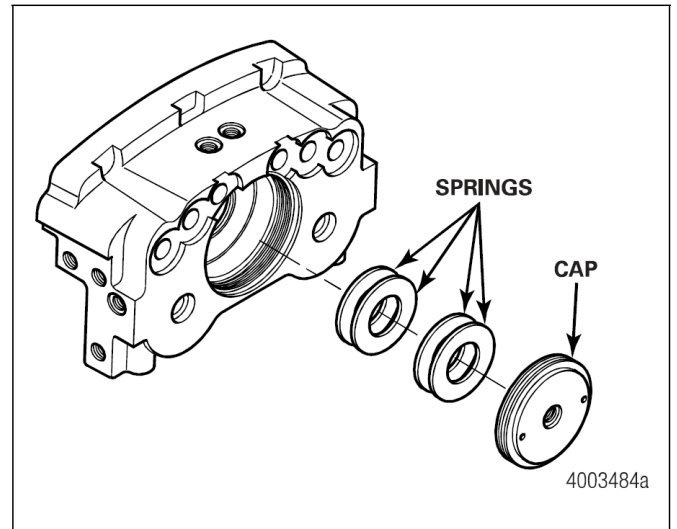

Figure 3.5
- Remove the four belleville springs from the parking piston cavity of the caliper housing. Figure 3.5